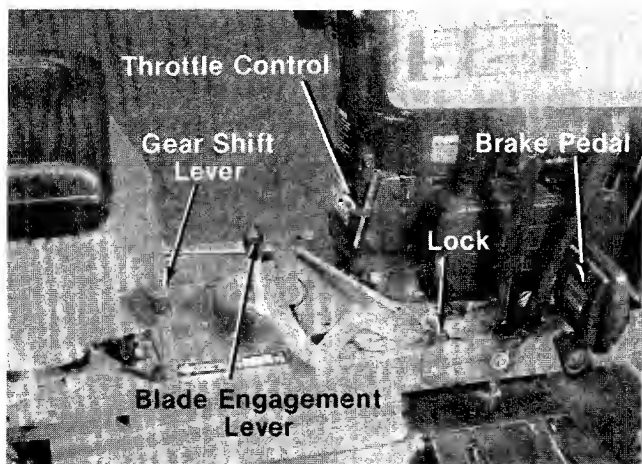

FIGURE 11.
A. Throttle Control actuates the butterfly in the carburetor and may be set at "CHOKE", "FAST" or "SLOW." See figure 11.
D. The Blade Engagement Lever engages and disengages the blade. Pull the Blade Engagement Lever back to stop the blade. Move the Blade Engagement Lever forward to engage the blade. See figure 11.
- E. The Gear Shift Lever is used to select either forward or reverse. See figure 11.
- G. The Brake Pedal is operated with your right foot and is used to stop the forward or reverse motion of the rider. To engage the brake, depress the Brake Pedal with your right foot. To set the parking brake, depress the brake and lift the lock. To release, depress the brake pedal. See figure 11.
3. Depress the Brake Pedal and lock it down with lock. See figure 11.
5. Place the Gear Shift Lever in "NEUTRAL" (N) position. See figure 11.
6. Place the Blade Engagement Lever in the "OFF" disengaged position. See figure 11.
7. Place the Throttle Control Lever in the "CHOKE" position. See figure 11.